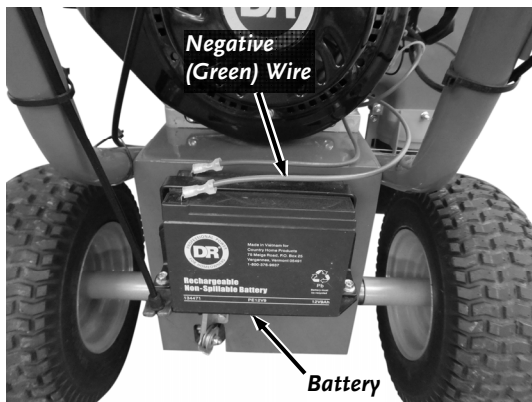

Figure 7
1. Install the Negative (Green) Battery Wire onto the Negative Battery Terminal (**Figure 7**).